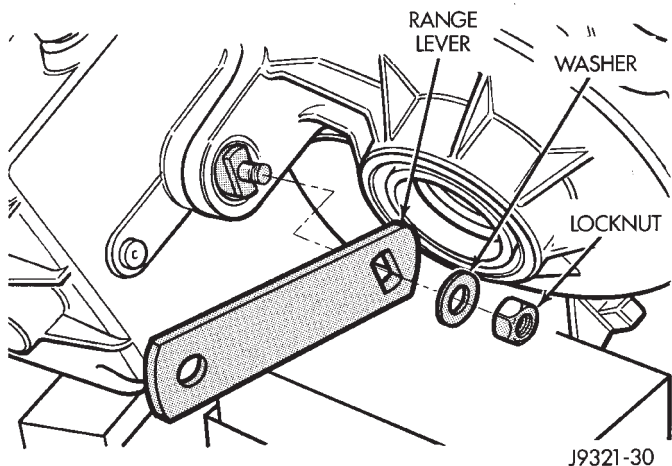

Fig. 74 Range Lever Installation
(1) Install indicator switch in front case. Tighten switch to 20-34 N·m (15-25 ft. lbs.) torque.
(2) Install range lever, washer and locknut on sector shaft (Fig. 74). Tighten locknut to 27-34 N·m (20-25 ft. lbs.) torque.